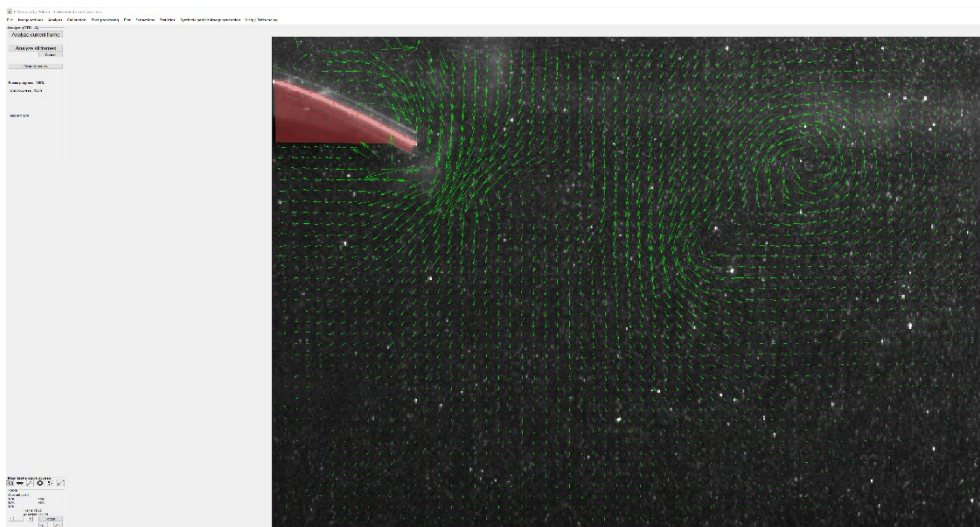

Fig. 4 – Analysis window showing the processed vector field
- From the Analysis menu, select Analysis and choose Analyze all frames (fig. 4).